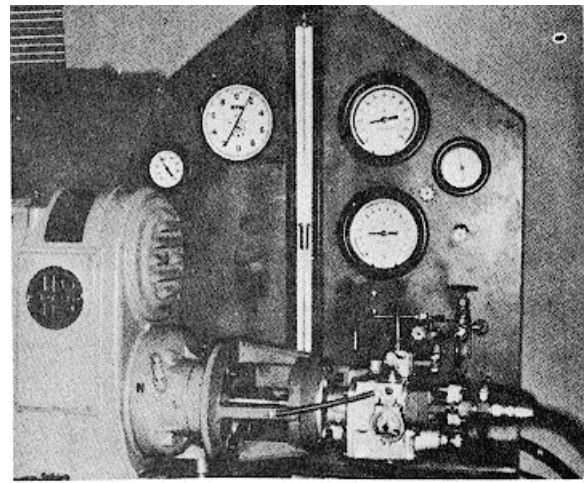

Fig. 5-1-15, F5107. Adjust manifold orifice valve for flow
5. Close the fuel manifold orifice valve or main flow control needle valve until the flow-meter shows the flow specified under "Flow-Meter" in the calibration data (425 lb/hr on an NH-22Q pump). There must be no air visible in the flow-meter. Fig. 5-1-15. Disregard change in vacuum readings at this setting.